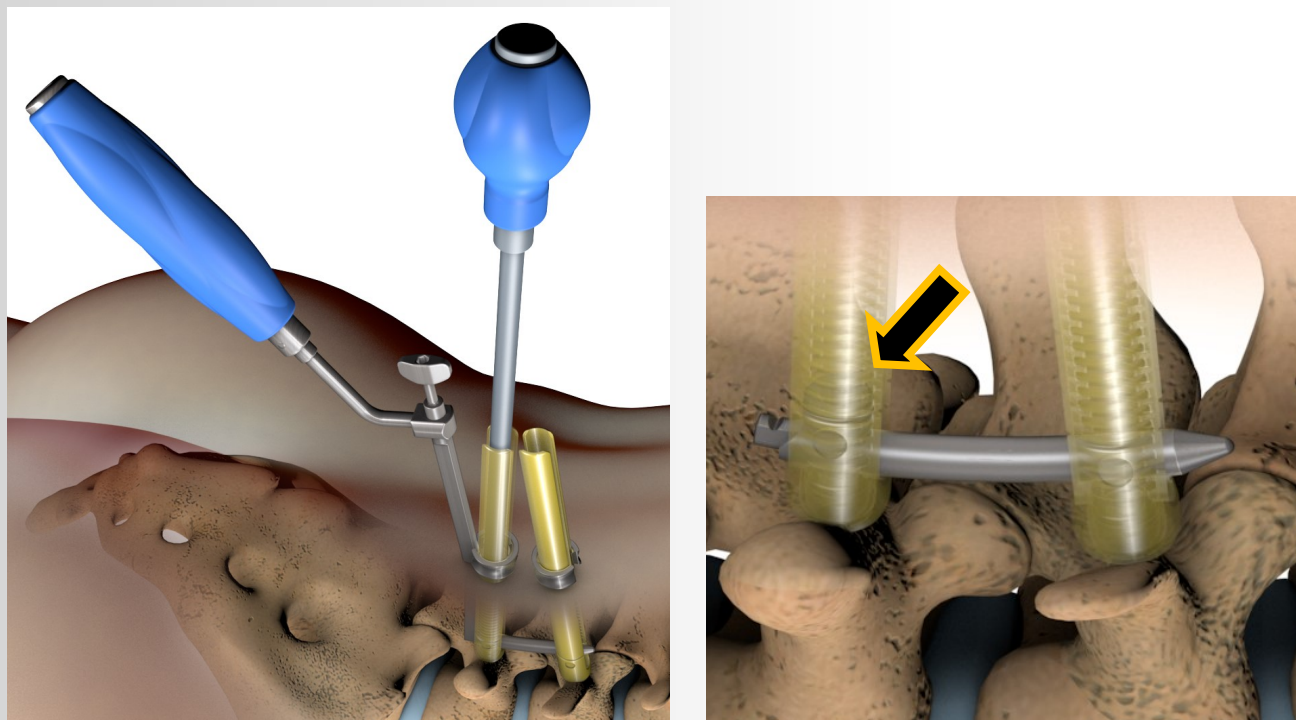

Figure 23
- A. Load the Set Screw onto the tip of the self-retaining **Set Screw Driver Guide** by engaging the hex (Figure 23).